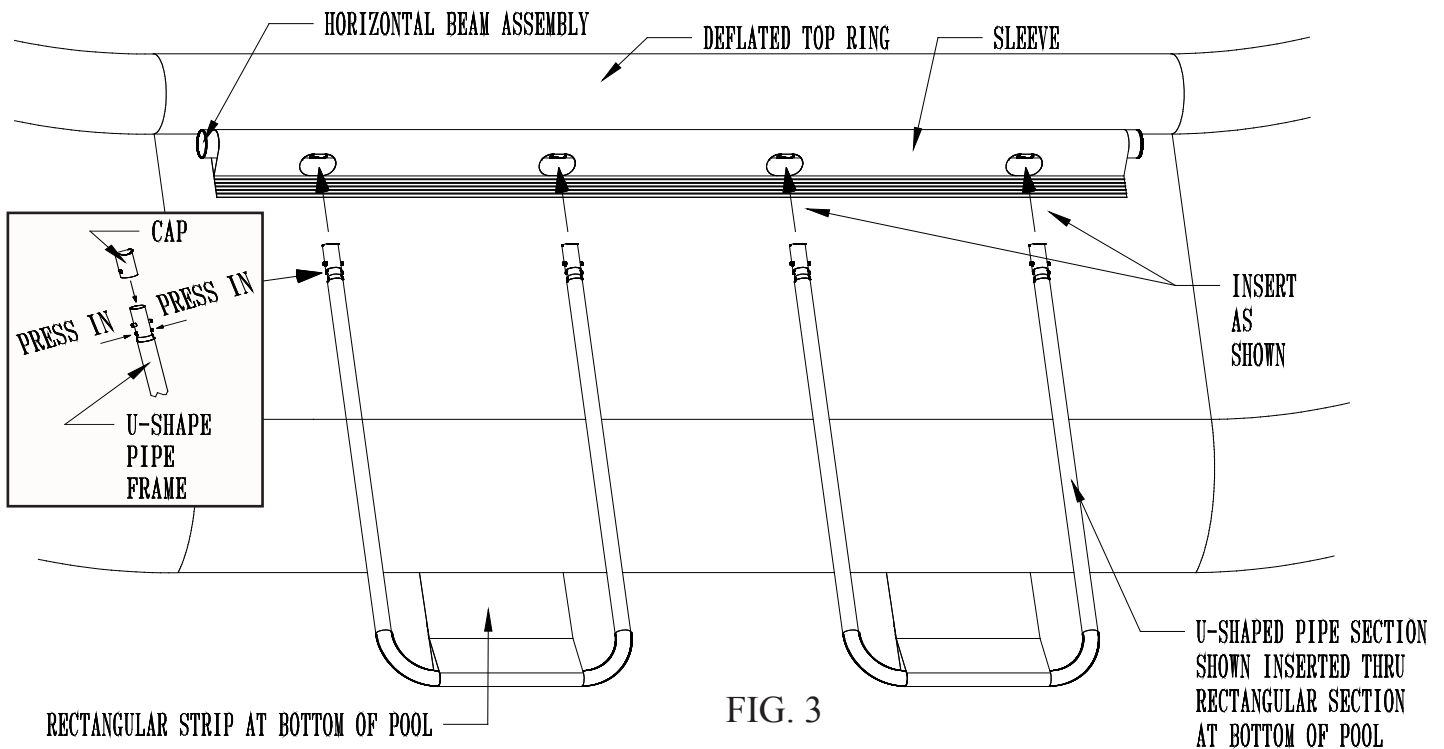

FIG. 3
- Now insert the two U-Shape pipe sections through the end of the two rectangular strips at the bottom of the pool FIG. 3. Now, insert the capped ends of the U-Shape pipe into the holes in the Horizontal Beam assembly FIG. 3 depress the buttons pushing the Cap entirely into the horizontal beam until it stops.